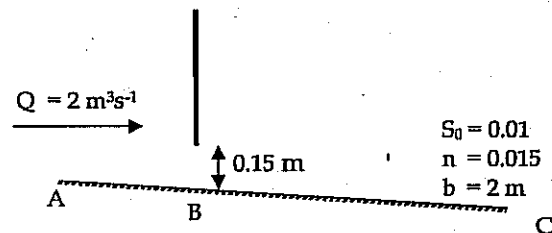

Figure 3
3) A long open channel ABC has a width of 2 m, a slope of 0.01 and a Manning's coefficient of 0.015. The channel carries a steady discharge of 2 m3/s. A gate is placed in this channel at B as shown in Figure 3. The opening of the gate is 0.15 m and uniform flow is observed far upstream and downstream of the gate.